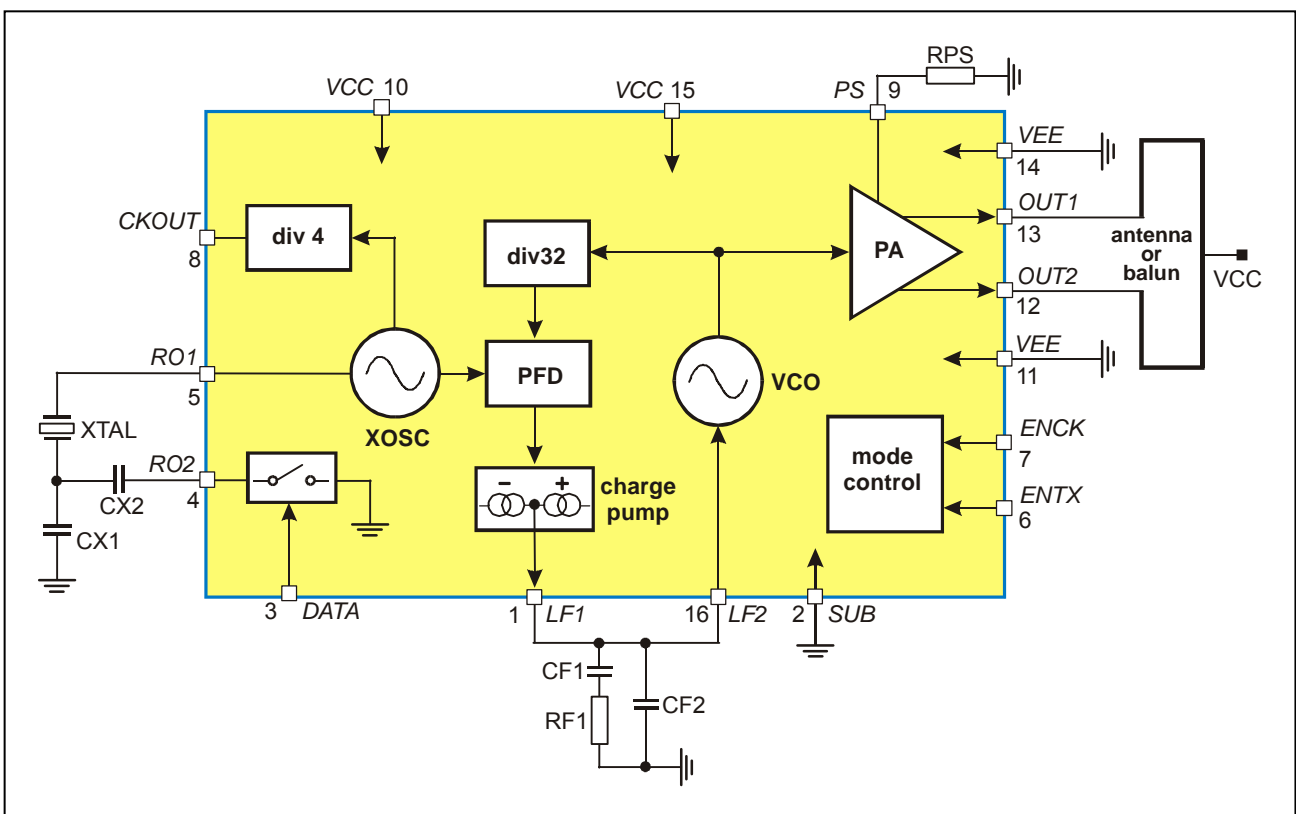

Fig. 1: Block diagram with external components
As depicted in Fig.1, the TH7107 transmitter consists of a fully integrated voltage-controlled oscillator (VCO), a divide-by-32 divider (div32), a phase-frequency detector (PFD) and a charge pump. An external loop filter at pin LF determines the dynamic behavior of the PLL and suppresses reference spurious signals. The VCO's output signal feeds the power amplifier (PA). RF signal power  $P_o$  can be adjusted in six steps from  $P_o = -12$  dBm to +2 dBm either by changing the value of resistor RPS or by varying the voltage  $V_{PS}$  at pin PS. The open-collector differential output (OUT1, OUT2) can be used to either directly drive a loop antenna or to be converted to a single-ended impedance by means of a balanced-to-unbalanced (balun) transformer. For maximum available output power, the differential output should be matched to a load of about 1 k $\Omega$ . Bandgap biasing ensures stable operation of the IC at a power supply range of 2.2 V to 5.5 V.